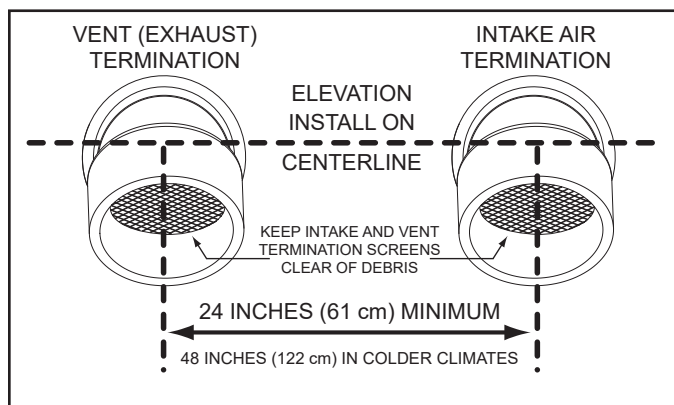

Figure 34. Sidewall Termination - Direct Vent
4. If installing both an intake-air and vent termination in a direct-vent configuration through a sidewall, there must be a minimum of 24 in (61 cm) separation, measured on a vertical center line, between the intake-air and vent terminations. See **Figure 34**.
5. If installing both intake-air and vent terminations in a Direct Vent configuration through a sidewall, the intake-air and vent terminations must be installed at the same elevation, measured on horizontal center line. See **Figure 34**.
However, the distance between the closest vent and intake-air terminations must be a minimum of 24 in (61 cm). In colder climates, this separation should be increased to at least 48 in (122 cm). See **Figure 34** (page 35).